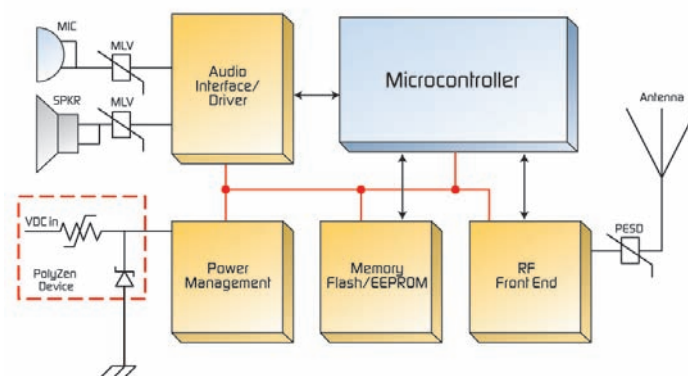

Figure 11. Typical circuit protection solution for Bluetooth modules
Protecting exposed communication interfaces from ESD and other voltage surges induced through the antenna and the instrument's wireless (RF) interface is a critical design issue. Figure 11 shows how a PolyZen integrated overcurrent/overvoltage device helps protect the power input to the Bluetooth module. MOVs or surface-mount MLVs are also used to help protect against voltage transients on the in-vehicle microphone and speaker interfaces. PESD devices can be used to help protect the antenna against ESD surges.